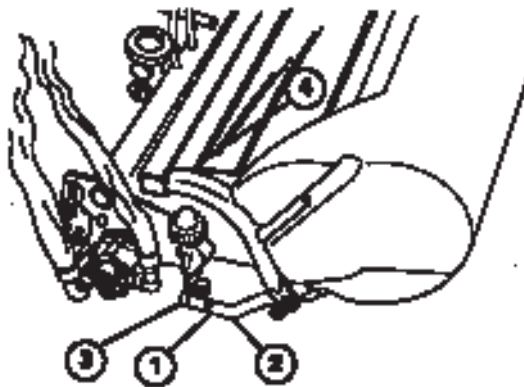

Figure 3
6. Mount the baskets on the pull frames, loosen the jam nuts on the pull arms and adjust the ball sockets until there is 6–11mm clearance between the lip of the basket and the reel blades (Fig. 3).
7. Align the sockets in the ball joints so the open side of the socket is centered toward the ball stud. Tighten the jam nuts to secure the sockets in position (Fig. 3).